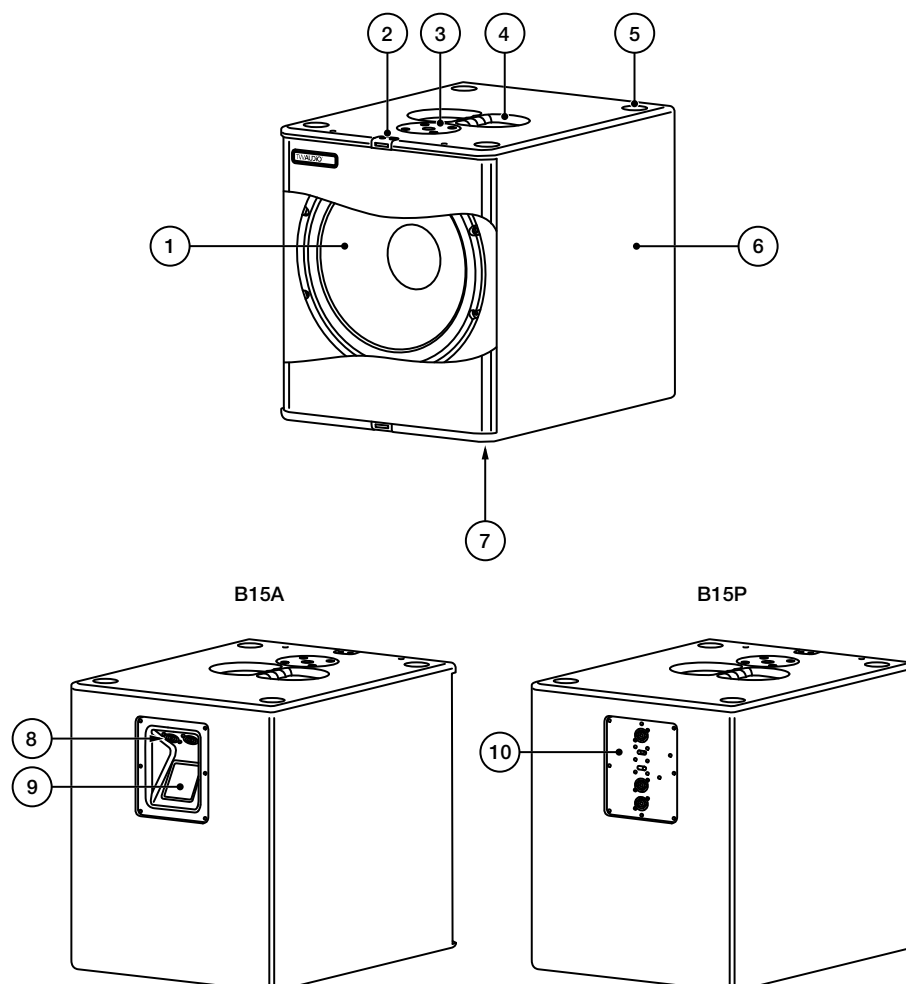

Figure 2.1 - Overview
The B15P model can also be operated in the „PASSIVE 1“ and „PASSIVE 2“ modes. This permits the connection of an additional loudspeaker on the high-pass output or the link output when operating with only one amplifier channel. The installed passive cross-over (pos.10 “Figure 2.1 - Overview” on page 7) has two selector switches, which are described in the following section.
Make sure that the maximum load of 50kg / 110lbs for the M20 pole mount flange is not exceeded! Figure 2.1 – Item 2.
The M20 pole mount flange (figure 2.1- item 2) is not designed for side forces once mounted – do not apply any pressure from the sides.
Please note that only centered loads are allowed to be placed on the M20 pole mount flange – Figure 2.1 – Item 2.